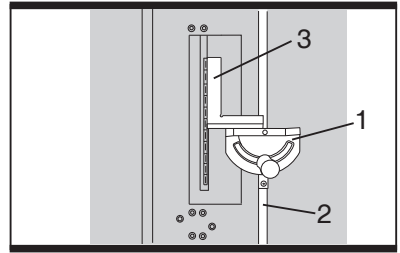
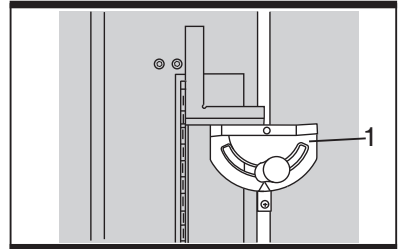

Fig 12
Fig 13
- 3) Place the mitre gauge (1) in the right hand groove (2) on the table top. Set the mitre gauge to 90° and tighten the gauge handle to lock it in that position.
- 4) Rotate the blade to bring the marked tooth in the front and about 13 mm above the table top. Place the bar of square (3) flat against the mitre gauge and move the bar toward the saw blade until it just touches the tip of the marked saw blade tooth (See fig. 12).
- 5) Without disturbing the bar clamped to the mitre gauge (1), move the mitre gauge to the centre of the saw blade. Rotate the blade so the marked tooth is at the rear and about 13 mm above the table top.
- 6) Slide the mitre gauge rearward until the clamped bar is closest to the tip of the marked tooth (See fig. 13).